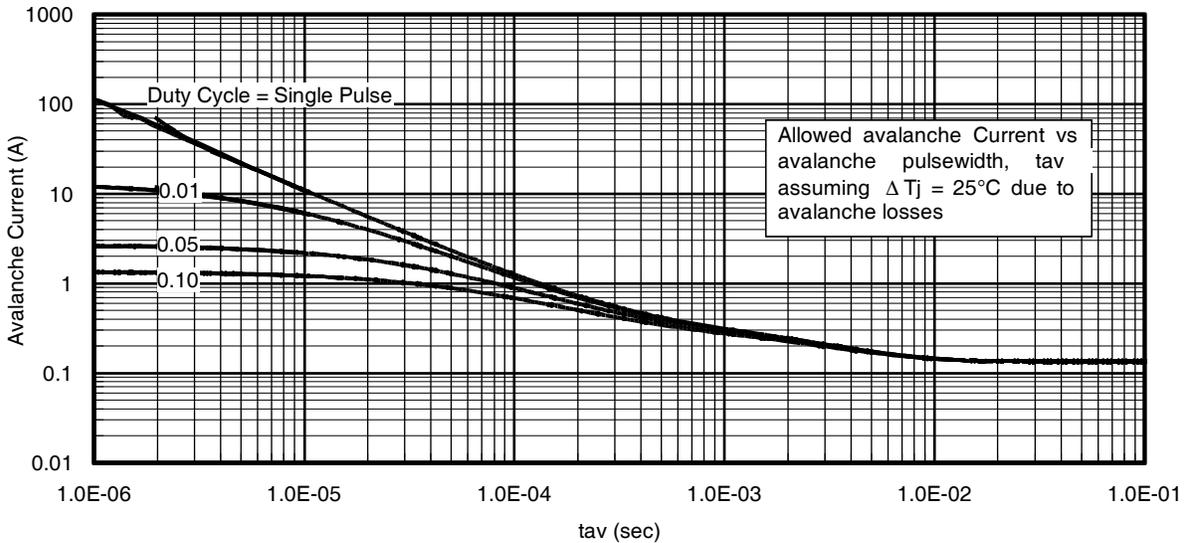

Fig 14. Typical Avalanche Current Vs. Pulsewidth
- ① Repetitive rating; pulse width limited by max. junction temperature.
- ② Starting $T_J = 25^\circ\text{C}$, $L = 1.62mH$, $R_G = 25\Omega$, $I_{AS} = 11A$.
- ③ Pulse width $\leq 400\mu s$; duty cycle $\leq 2\%$.
- ④ R_{θ} is measured at T_J of approximately 90°C .
- ⑤ Limited by T_{jmax} . See Figs. 14, 15, 17a, 17b for repetitive avalanche information.
Notes on Repetitive Avalanche Curves , Figures 14, 15:
7. ΔT = Allowable rise in junction temperature, not to exceed T_{jmax} (assumed as 25°C in Figure 14, 15).